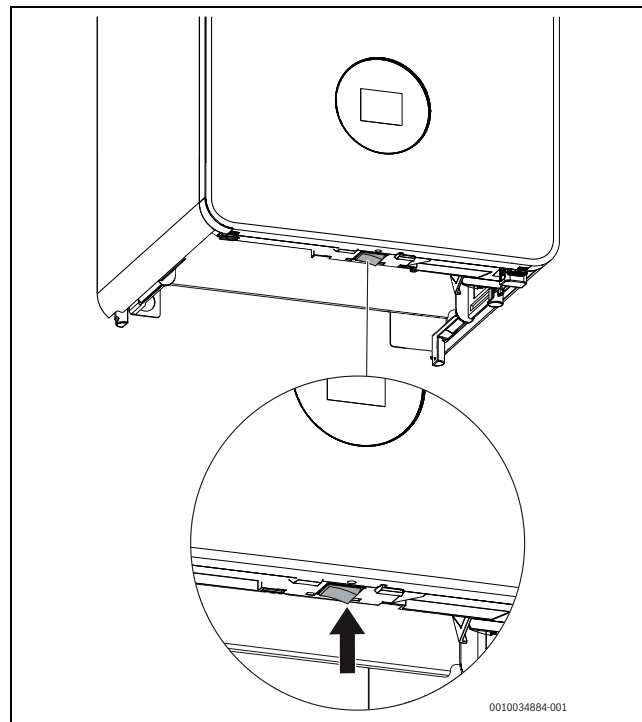

Fig. 1 On/Off-switch
- Switch off the device using the On/Off switch (→ Fig. 1).